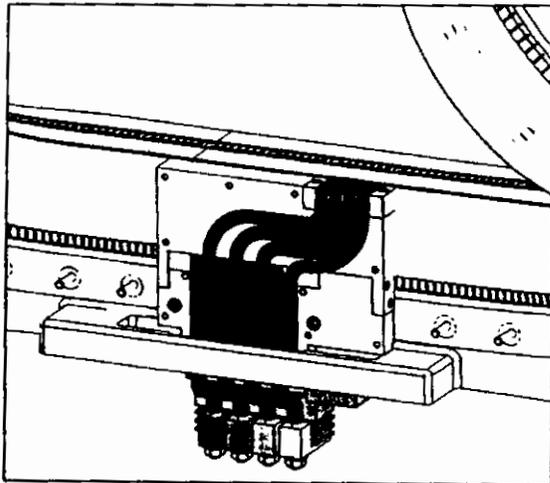

Figure 14- Upper Lead Guide Block and Leads
6.15.2 Position the last layer of (4) conductors into the conductor slots in the upper lead guide block. Care must be taken during this operation, to minimize any damage to the over wrap insulation. Figure 14- Upper Lead Guide Block and Leads